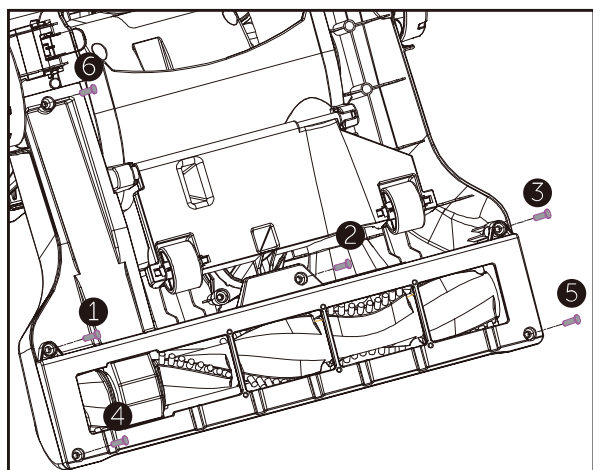

Fig 1
3. Pull hose up to release hose end from hose inlet (Fig.1).
1. Press release button and lift out dust container (Fig. 1).
- Use a Philips screwdriver to remove 6 screws at the bottom of the base (Fig 1) lift out brush cover